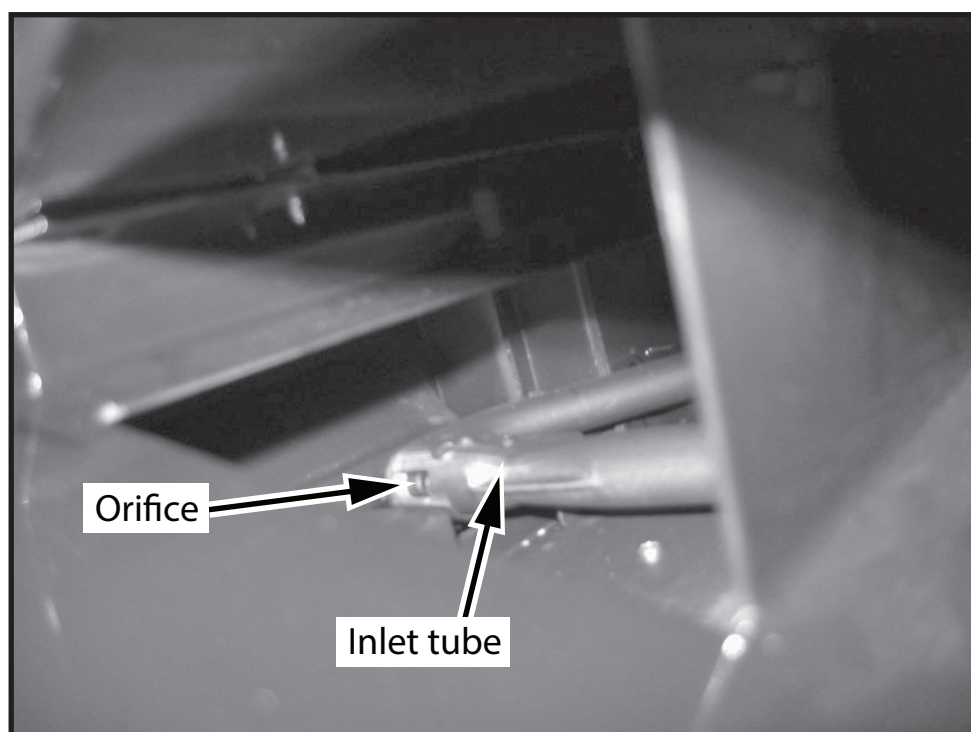

Figure 18: Orifice and inlet tube.
9. Install burner by tilting burner tube through the tray. Ensure that the orifice has entered the tube (Figure 17 and Figure 18).